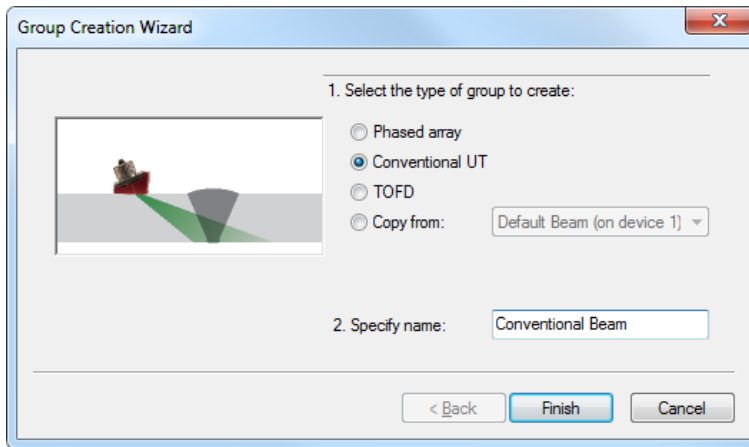

Figure 4-13 The Group Creation Wizard dialog box
2. In the **Group Creation Wizard** dialog box that appears (see Figure 4-13 on page 240):